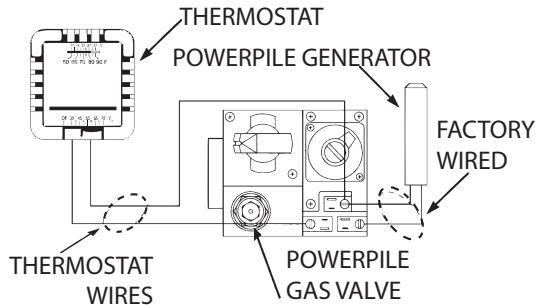

Figure 4. Connection Diagram
- J. Connect thermostat wires to gas valve as shown in Figure 4.